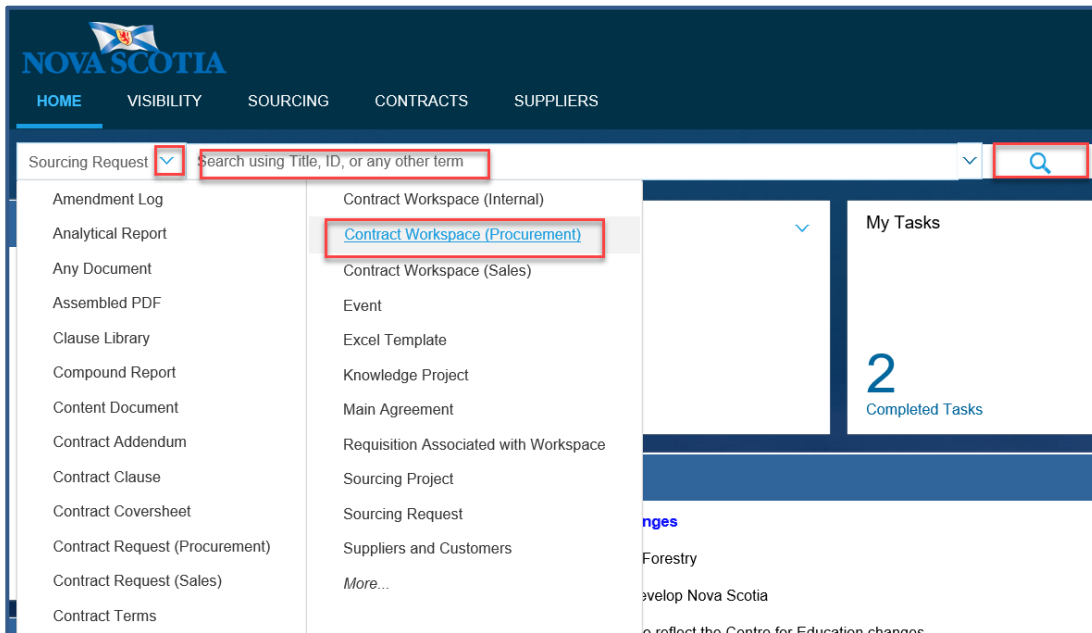

Figure 7
2. From the Search bar, click the down arrow key beside the Search bar and select **Contract Workspace (Procurement)**. (Figure 7)